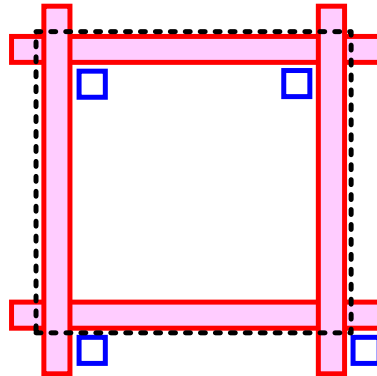
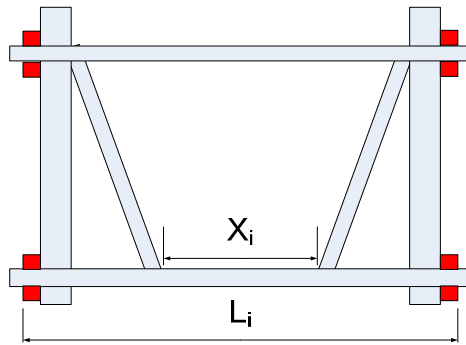

Figure 4. The schematic diagram of the floor area plan. The floor area is the area enclosed by the black dashed lines.
Figure 6 (side view)
4.5.1 The floor area is defined as the area enclosed by the edge beams. The floor area is measured along the outer edges of the edge beams shown as the black dashed lines in Figure 4. The two ends of the edge beams should be connected to the columns, which are fixed on the base board and are continuous from the ground to the floor. The minimum floor area for each of the 2FL and 3FL is 280 cm2. The minimum floor area for each of the other floors is 100 cm2. The total floor area, excluding the 1FL (the GF), of the model must be between 1000 cm2 and 2000 cm2. There is no mass block placed on the 1FL (the GF). The 1FL (the GF) area is also not counted in.
- 4.7.1 Based on flow and space consideration, a real building should contains doors and windows on each floor. Therefore, every floor of the model must keep some exterior clearance  $X_i$ , in which there is no material/member installed along the perimeter  $L_i$  of the floor (Figure 6). The ratio of  $X_i$  to  $L_i$  for each floor should be not less than a certain value (values will be
4.7.2  $\Sigma L_i$  (Figures 6 and 7) is the sum of the floor perimeter defining the floor area shown as Figure 4.  $\Sigma X_i$  is the sum of the parts of the floor perimeter, which are not occupied by the projection of walls, bracings and inclined columns.